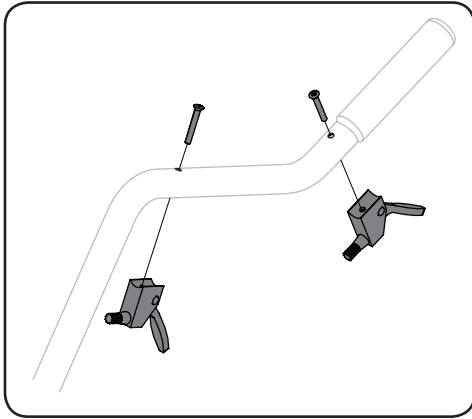

Figure 2-18
2. Mount the cable levers (746-04794) to the control tube with 2 #10 screws (710-1625) found in hardware pack 3 (689-00679). See Figure 2-18.